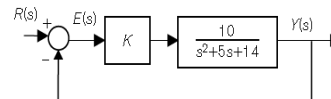

Figure 9.4 Control system for second-order design problem.
40. Given the system in Figure 9.4, what would be the value of the controller gain K to achieve a steady state error of $e_{ss} \leq 0.2$ to a unit step input?